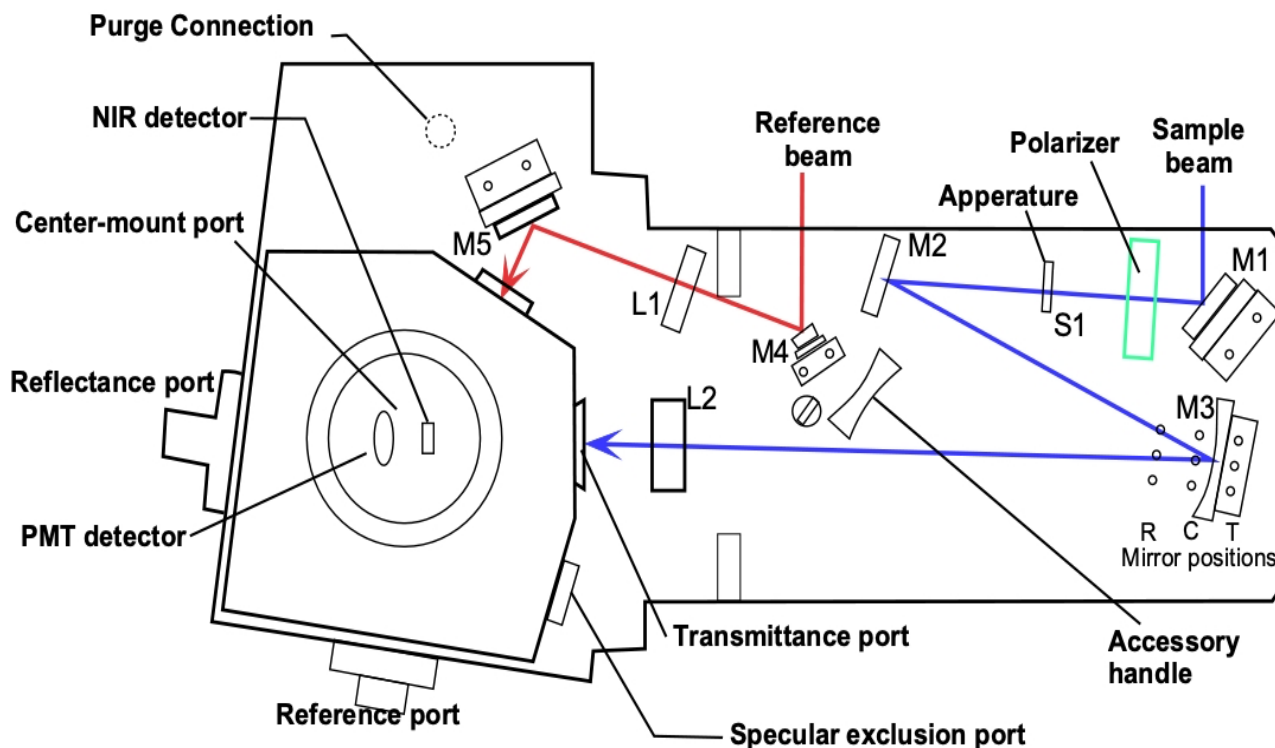

Figure 1 Diffuse Reflectance Accessory showing optics and beam path.
The sample can be placed for use with the integrating sphere (see figure 1 and 2) at four positions.
For Large samples one must remove lens 2 (Figure 1) and use the large sample setup mirror M3. The large sample standard M3 mirror (Figure 1) has three sample positions depending on where the sample is (Transmission, Center, and Reflection). Each of the mirror positions will focus the light onto the position of the sample. The three positions are marked T (transmittance slot), C (center mount), and R (rear reflectance slot) in Figure 1. Thus, the mirror needs to be moved to the right position depending on the placement of your sample. **Wear gloves to handle the mirrors or lens. Turn off the Cary first, if you need to unplug the DRA to move the mirror.**
The M3 mirror is replaced by the small sample kit (SSK) mirror (Figure 1) in the T position. Lens (L2) mounts in front of the sample. There are three lenses that can be used at the L2 position again for the three sample positions marked as T, C or R.
9. Check that the sample beam does not overflow your sample or hit any white surfaces. If the sample is small you need to mask the sample and/or use an aperture to restrict the entrance to the integrating sphere (look in the drawers for the Cary for apertures). You can also reduce the slit height in the software or close the iris/aperture in the sample compartment (Figure 1 & 2). Do not put anything that can scatter light close to the beam path at the entrance or exit to the sphere. This includes edges of glass slides.
2. **Small spot kit (SSK):** There are a series of lenses and a mirror that can be put in the optical path to focus the beam into a smaller spot on the sample. The large mirror (M3) must be changed to the SSK mirror. The SSK mirror is always kept in the T position. There are three lenses (L2, Figure 1) with different focal lengths and marked T, C, and R for the three positions of the integrating sphere.
It is best if the beam spot does not overflow the aperture. If the beam overfills the aperture, you can reduce the beam size as mentioned in 1 above or by using an aperture on the entrance to the integrating sphere or closing the aperture/iris S1 (Figure 1 & 2). If the beam spot overfills the aperture a little, you can correct for this “stray light” by performing a Zero/baseline Correction. Normally, the 0%T Baseline scan is run by blocking the beam before it enters the integrating sphere, which accounts for electronic noise. To correct for slight overfilling, do not block the beam and if doing reflectance leave the exit port open (but with the aperture in place) so that the 0%T Baseline will see light that hits the aperture). This is only useful if the reflection from the sample is significantly stronger than the light that hits the exit aperture. One can check the amount of light hitting the aperture by running a spectrum with the sample light blocked at the entrance slit. It is best if you can control the beam size so that only the sample is illuminated.